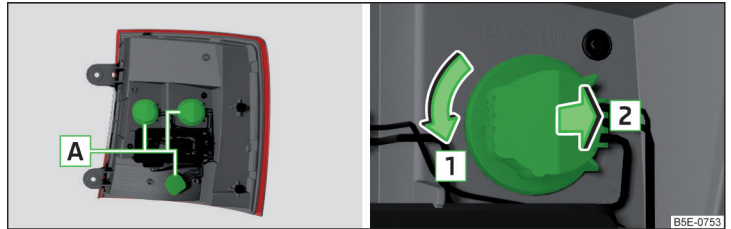

Fig. 363 Outer part of the lamp/Remove holder with bulb
- › Turn the holder with the bulb **A** in the direction of arrow **1** » Fig. 363.